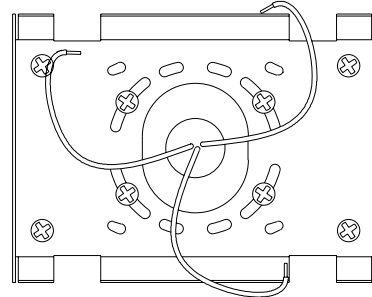

Figure 5
- If junction box is recessed into wall (flush with wall surface), mark 4 large holes onto wall. Secure plate to wall with suitable fasteners and anchors. See Figure 5. **Warning: Do not rely on junction box screws alone to secure mounting plate to wall!** Proceed to Step 8.